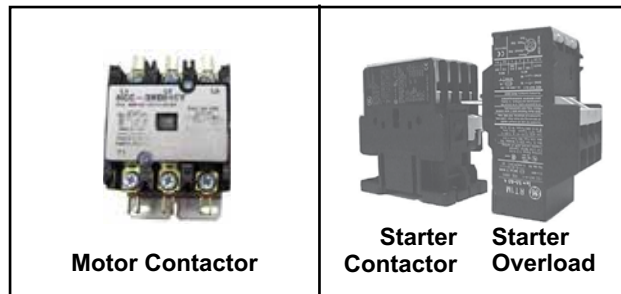

Figure 4. Motor Contactor, Starter Contactor, and Starter Overload
- **Motor Contactor:** The motor contactor (option AN2, PN 216386, manufacturer's model HCC-3XQO1CY, see Figure 4) is located in the electrical compartment.
- **Starter Contactors and Overloads:** Starter contactors and overloads (see Figure 4) are listed as follows:
- (1) Starter contactors with 24V coils and overloads (option AN10) used on equipment manufactured after AUG 2003 (serial No. code BCI) are listed in Table 7, Table 8, and Table 9.
- (2) Starter contactors with line voltage coils are listed in Table 11.
- (3) Replacement coils for IEC starter contactors are listed by voltage in Table 12. When ordering a replacement IEC starter contactor or overload, check the manufacturer's number on both parts. If the numbers are different than that listed in Table 12, both components must be replaced.